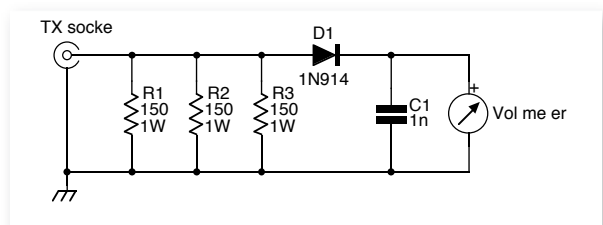

Fig. 1: A simple power measurement circuit.
3. Power: The output power of the transmitter final stage shall not exceed 3W p.e.p. If the equipment in use is usually capable of a higher power, the power shall be reduced and measured by satisfactory means. The simplest way is often to apply a (variable) negative voltage to the transmitter a.l.c. line, reached via the accessory socket. The output power can be accurately measured using the simple circuit of **Fig. 1**. Connect this to the 50Ω output of the transmitter and adjust the power so that the voltmeter does not exceed 16.7V on a 'good whistle' into the microphone.